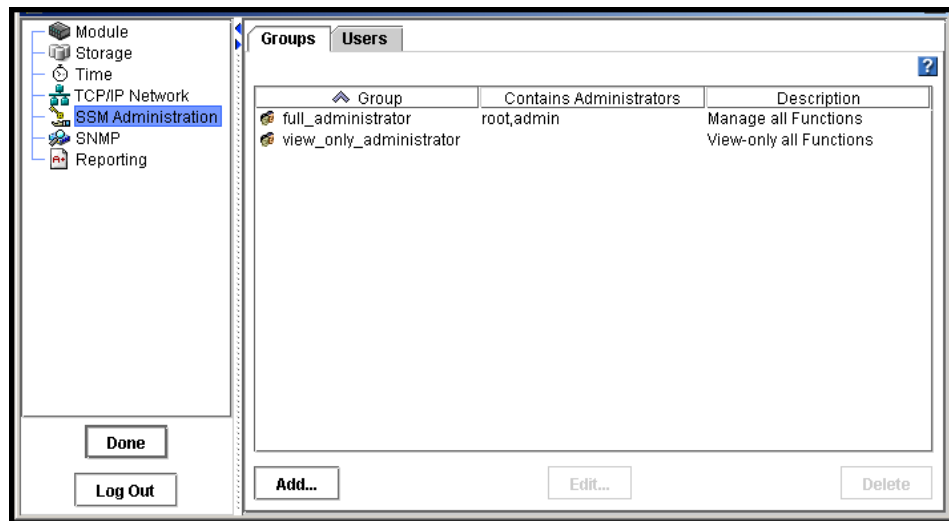

Figure 96. SSM Administration Groups Tab
2. Select SSM Administration from the configuration categories. The Groups tab opens, as shown in Figure 96.